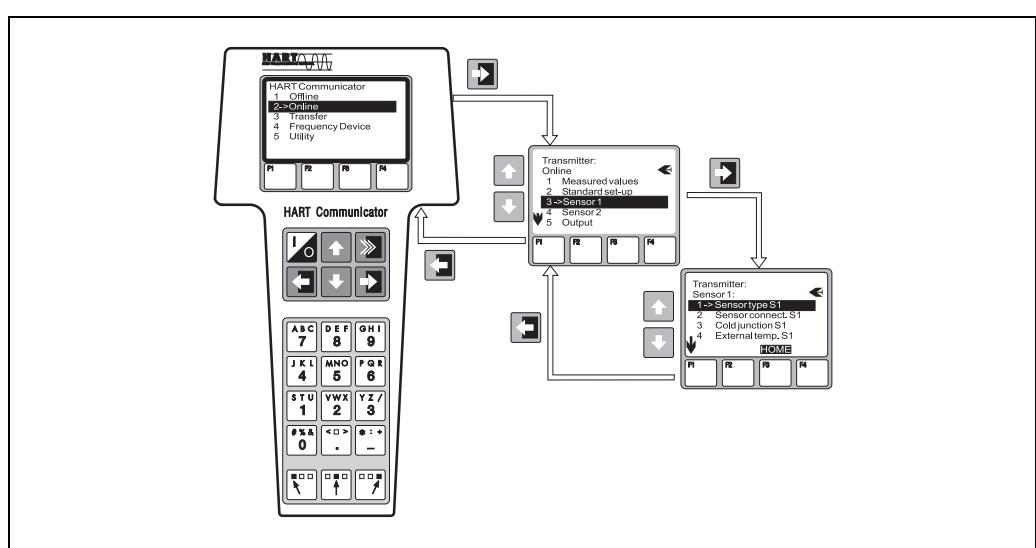

Fig. 9: Configuration at the handheld module, using 'Sensor input' as an example
- Measuring device is already connected. The 1st menu level of the device function matrix appears directly (see Fig. 9). All the functions accessible under HART® are systematically arranged in this matrix.